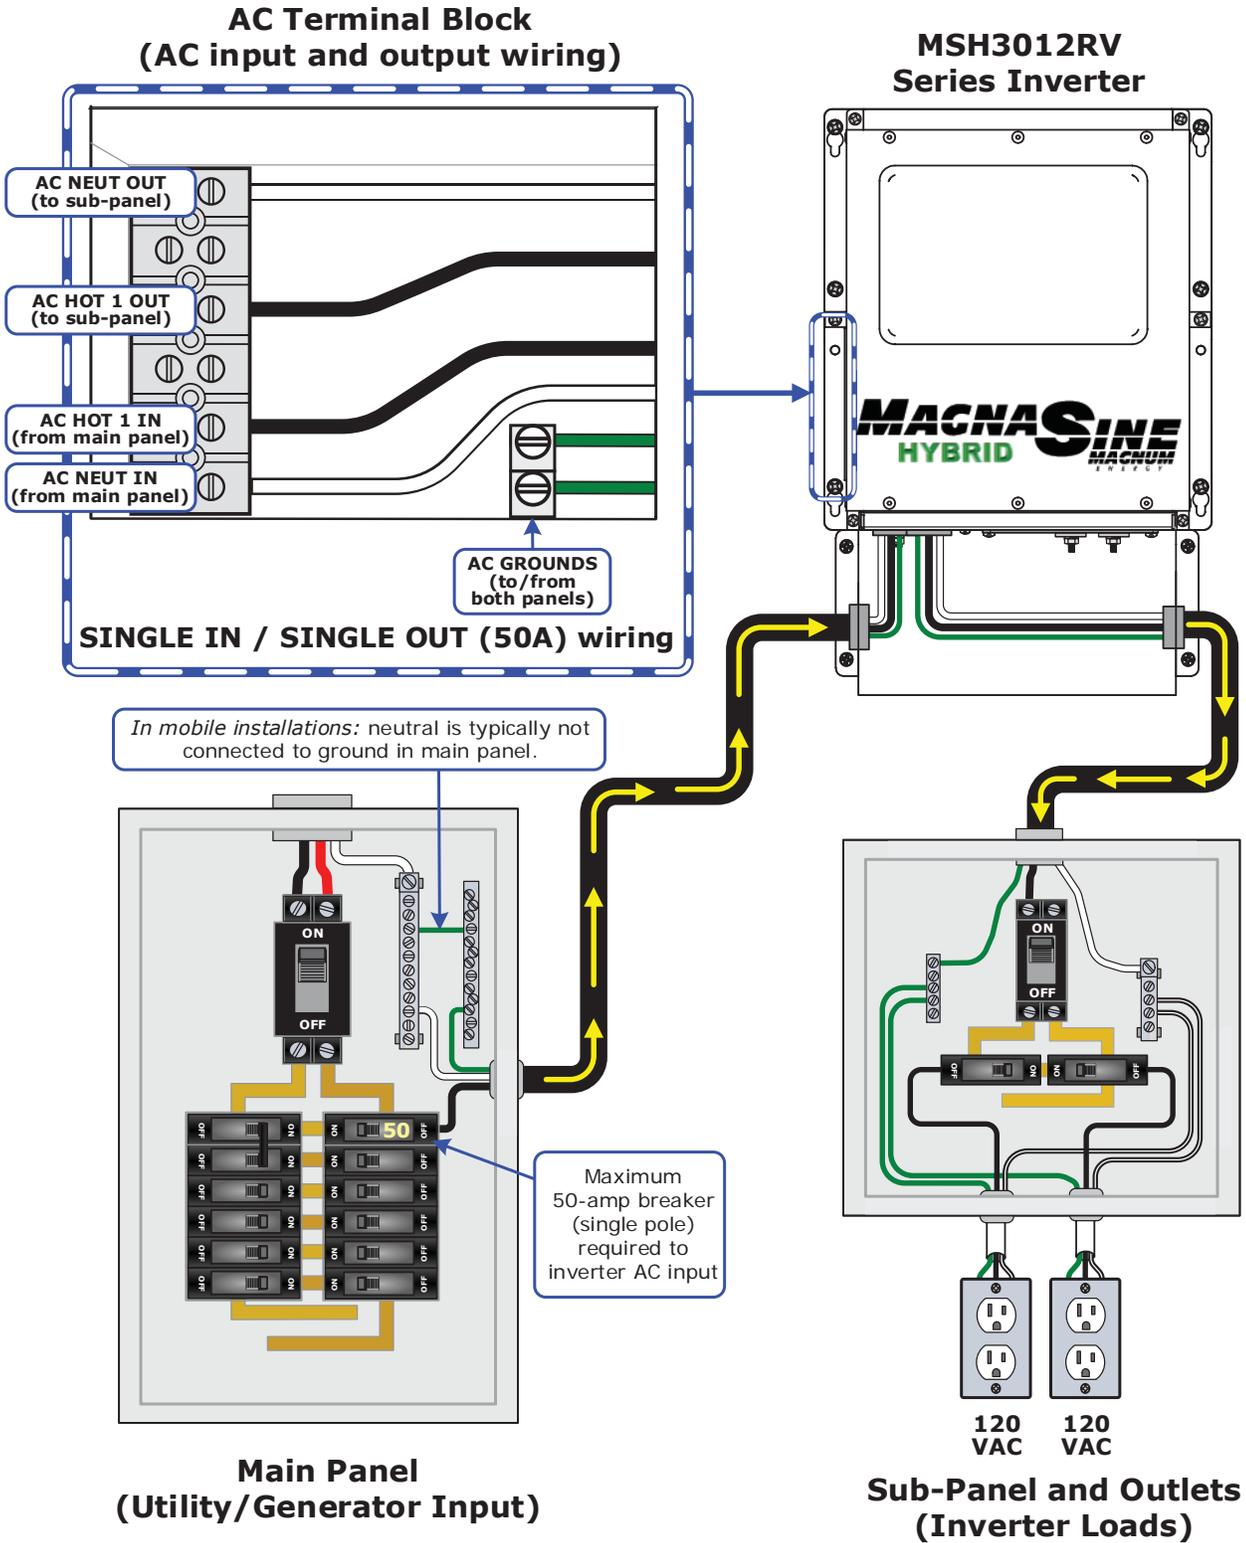

Figure 2-9, AC Wiring for Single In – Single Out (50A) Configurations
1. Route the wires (HOT, NEUTRAL, and GROUND) from the AC electrical main panel through one of the strain relief clamps on the inverter (Figure 1-2, Item 9). Tighten the strain relief clamp securely on the wires. Always leave a little extra slack in the wiring. Refer to Figure 2-9 for this procedure.
3. *Optional:* If wiring as Dual In (DI), connect another HOT wire (red) from the main panel's dedicated breaker to the inverter's HOT 2 IN terminal. Tighten the HOT 2 IN terminal to 16 in-lbf (1.8 N-m).
The following table provides the different wiring configurations for installing and connecting the AC conductors to and from the inverter (refer to Figures 2-9 to 2-11 for installation drawings showing these configurations).